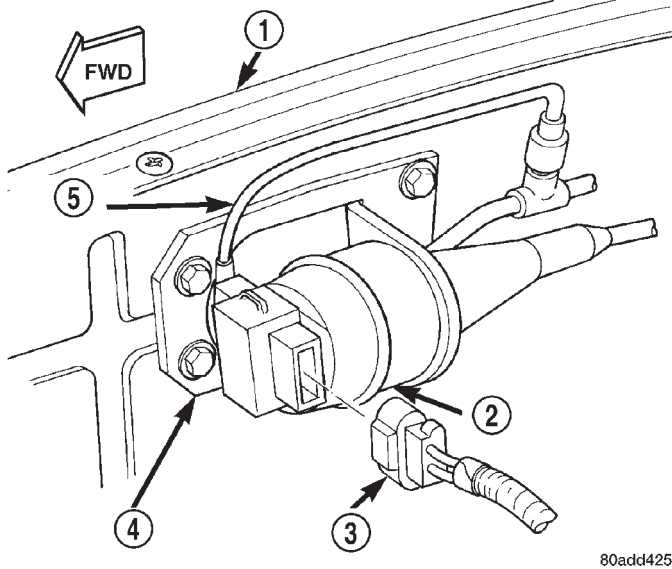
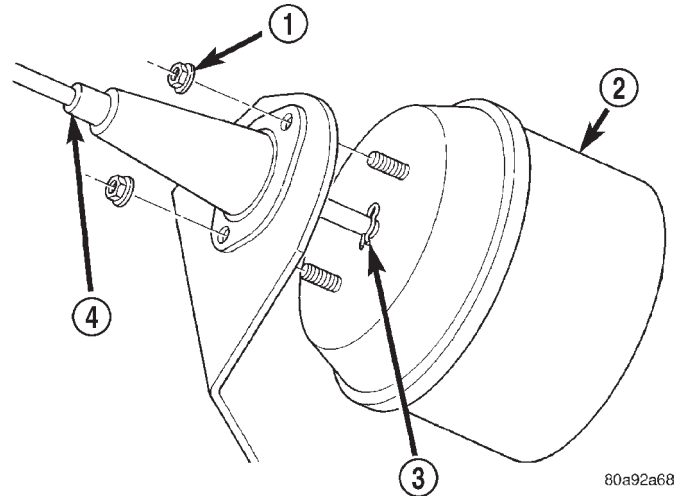

Fig. 1 Speed Control Servo Location
Fig. 2 Servo Cable Clip Remove/Install—Typical
- (1) Disconnect negative battery cable at battery.
- (2) Disconnect vacuum line at servo (Fig. 1).
- (3) Disconnect electrical connector at servo.
- (4) Disconnect servo cable at throttle body. Refer to Servo Cable Removal/Installation.
(5) Remove 2 mounting nuts holding servo cable sleeve to bracket (Fig. 2).
(6) Pull speed control cable sleeve and servo away from servo mounting bracket to expose cable retaining clip (Fig. 2) and remove clip. Note: The servo mounting bracket displayed in (Fig. 2) is a typical bracket and may/may not be applicable to this model vehicle.